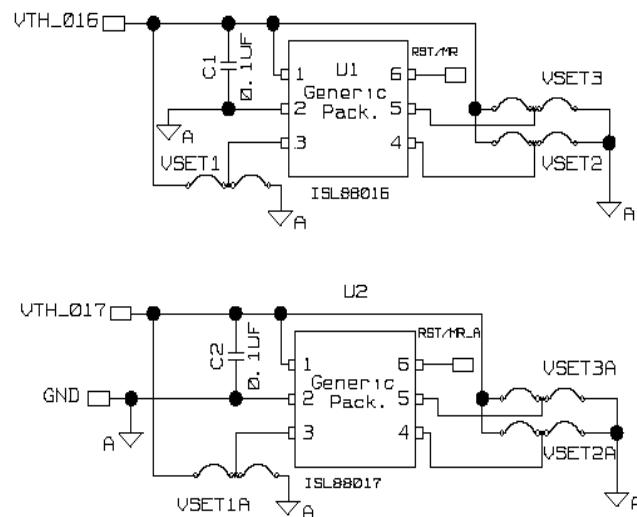
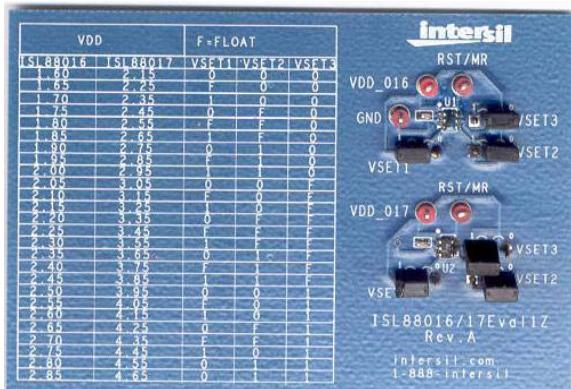

FIGURE 4. ISL88016/17EVAL1Z SCHEMATIC
FIGURE 5. ISL88016/17EVAL1Z PHOTOGRAPH
The ISL88016/17EVAL1Z platform is provided with both an ISL88016 in the top and an ISL88017 in the bottom positions. Each IC is default programmed to VSET1, VSET2 and VSET3 = FLOAT but provided with jumpers to change the Vth level by individually connecting the three VSET pins to either V_{DD} (1) or GND (0). To the left of the circuits is a VSET programming table for easy reference. Provide adequate bias to V_{DD} to deassert \overline{RESET} signal. See Figure 4 for the ISL88016/17EVAL1Z schematic and Figure 5 for its photograph.